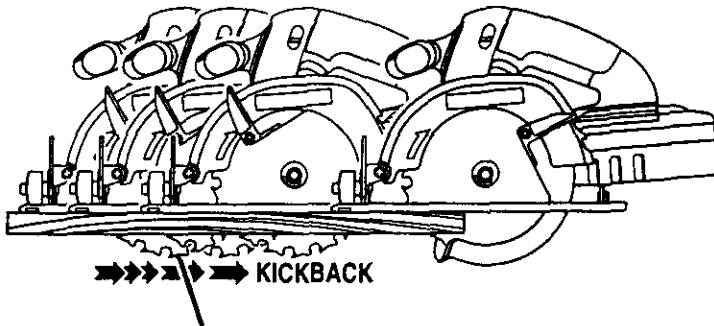

Fig. 11
See Figure 11.
- Incorrect blade depth setting. See Figure 11.